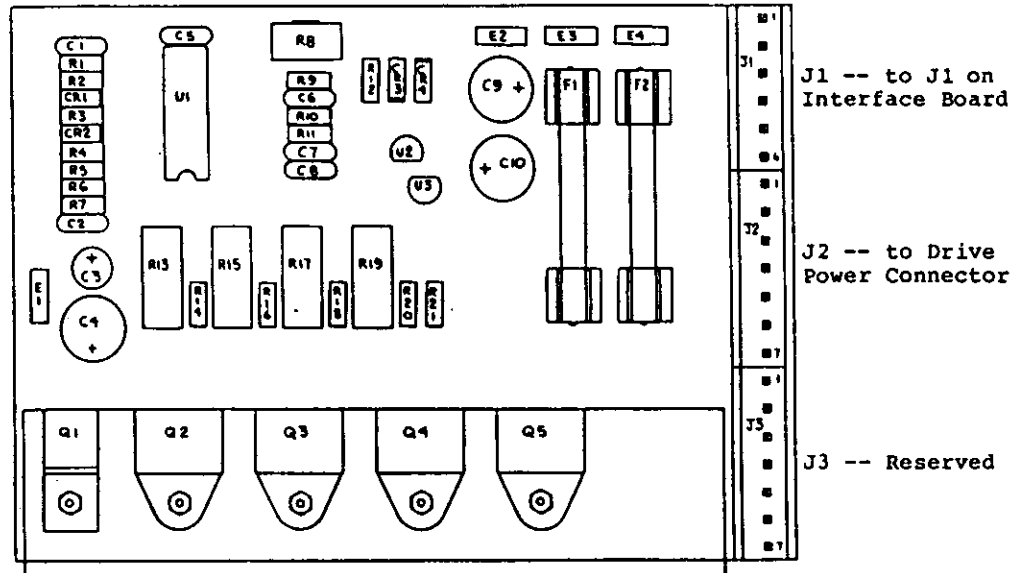

Figure A-3, Series 70 Power Supply Board Connector Locations
- 1) Label and disconnect the four quick-disconnect plugs from the Power Board. See Figure A-3.
- 3) Unplug the drive's Power Connector and the RS-232 Interface Board Power Connector from the Power Board. See figure A-3.
- 6) Connect the drive and interface board power connectors disconnected in step 3, Removal. Be sure to connect them in the proper locations on the Power Connectors of the Power Board. See figure A-3.